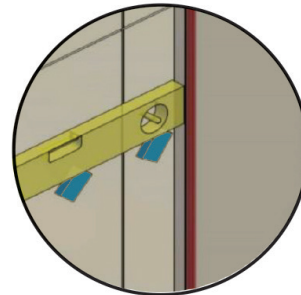

FIG 26.
- Remove plastic backing from stabiliser blocks and press firmly onto wall (**FIG 26**).